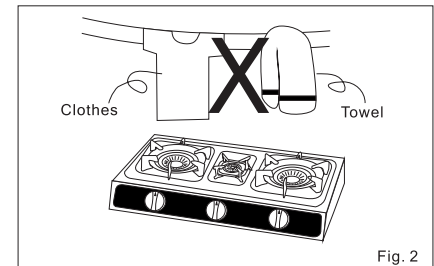

Fig. 2
- Use for cooking only. Do not use dry towels, clothes, etc., over it (Fig. 2).